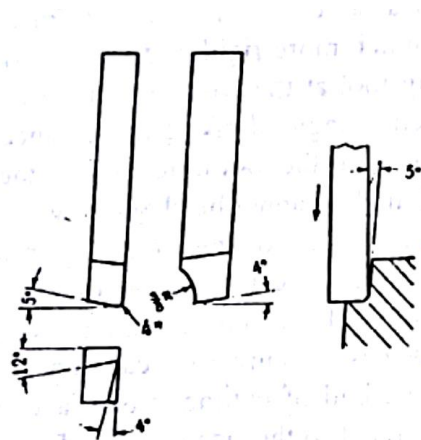

Figure 7.27 A left hand side roughing tool
3. A left hand side facing tool for vertical shaping and for shaping sharp corner (roughing) (Fig.7.27)